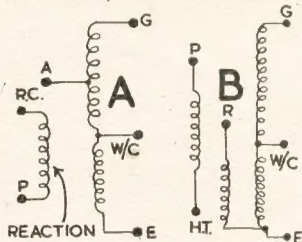
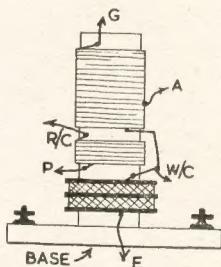

Fig. 1—Usual coil markings
Fig. 2—How windings are arranged
Some popular coils have a moulded base with small terminals. If the terminals have markings similar to those shown in Fig. 1, connexions can be identified easily. (A) shows the windings of the most popular type of coil for Long and Medium Waves, with Reaction and Aerial Tapping. Connexions are as follows: (G) to Detector Grid Condenser and Fixed Plates of Tuning Condenser; (A) to Aerial; (W/C) to Wavechange Switch; (E) to Earth; (R.C.) to Reaction Condenser, and (P) to Detector Plate. (The second terminals on both reaction condenser and wave-change switch will be connected to earth). With this type of coil no reaction will be obtained if the leads to the reaction winding are accidentally reversed.
Fig. 2 shows the way in which the majority of Long and Medium Wave Coils are wound. (If the coil has a metal screening can this should be lifted off for examination). In Fig. 2 the ends of the windings are marked to agree with (A) in Fig. 1, and are connected in the same
way. These ends will pass down inside the former and go to the various terminals. Therefore, by examining the coil in conjunction with Fig. 2, it will be possible to see which terminals form the various connexions and the terminals may be marked, or the numbers by them noted down.
Where coupling windings are included ((B), Fig. 1) these are usually wound upon a strip of insulating material which has been placed round upon the windings, shown in Fig. 2. But sometimes the winding may be on the former itself, and in each case it should be quite